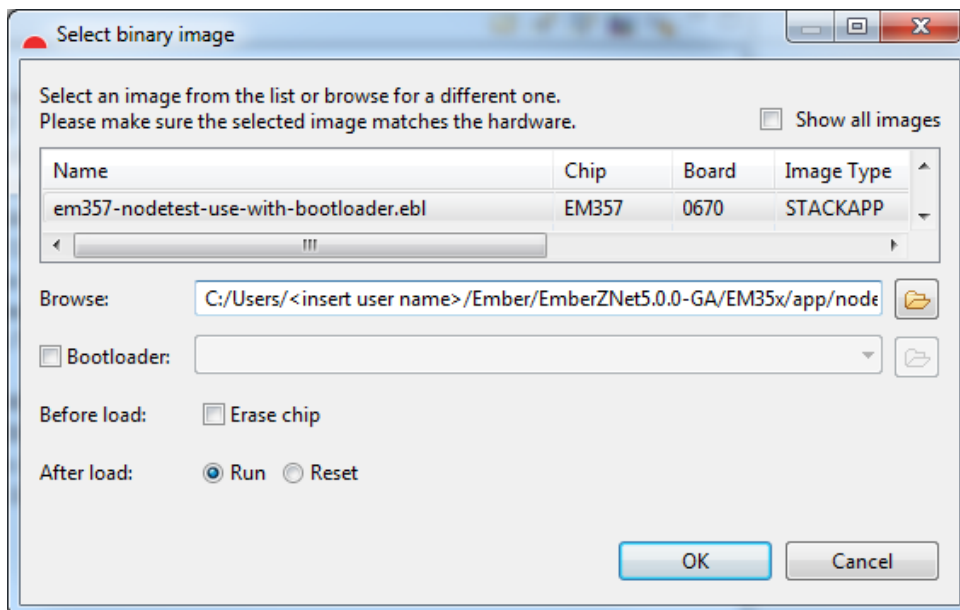

Figure 7. Select Binary Image and Bootloader with Ember Desktop
- Browse to select an application image from the dialog's list as shown in Figure 7.